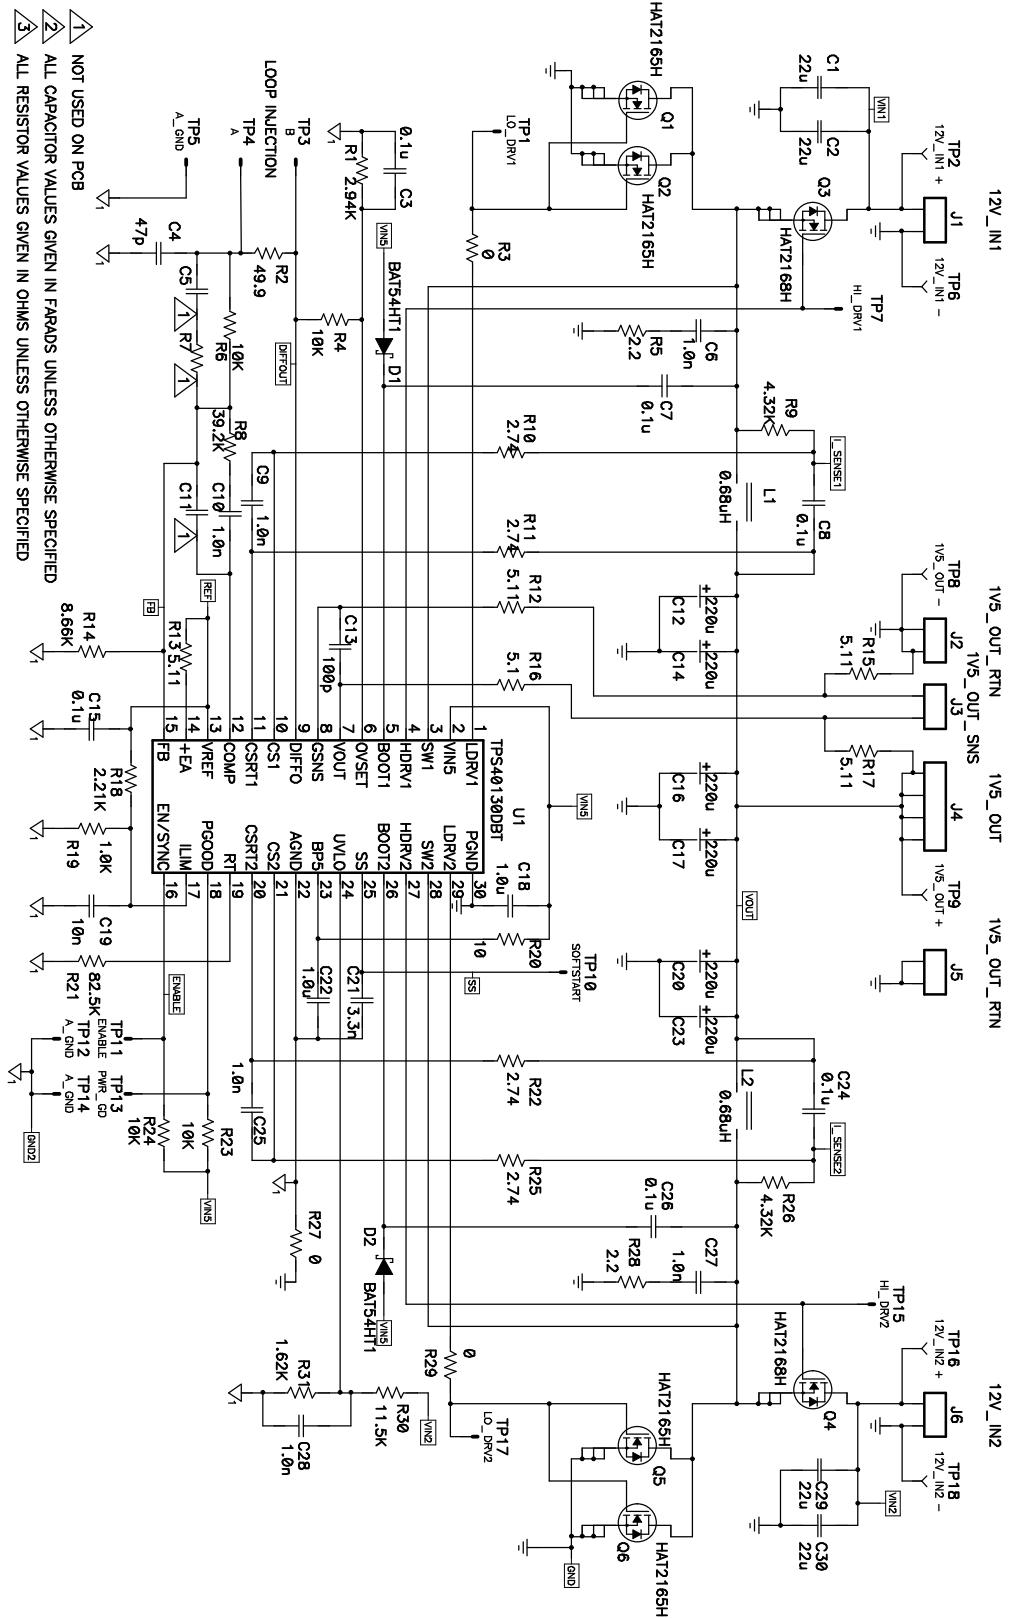

Figure 1. TPS40130EVM-001 Power Stage/Control Schematic
V_{12V_IN} : The input voltage source (V_{12V_IN}) should be a 0-V to 15-V variable dc source capable of 8.5 Adc. Connect V_{12V_IN} to J1 and J6 as shown in Figure 1.
5. Connect LOAD1 to J2 as shown in Figure 1. Set LOAD1 to constant current mode to sink 0 Adc before V_{12V_IN} is applied.